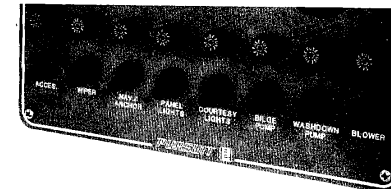

Figure 24
8. Test all switches on the accessory panel. See figure 24. Make sure the switches activate the equipment they control, and all equipment is in good operating condition.